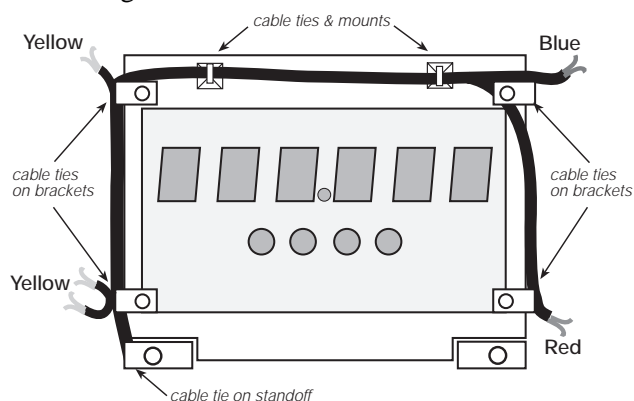

Figure 2. Cable Routing for Bulb Sockets
8. Route wires from terminal block to bulb socket locations as shown in Figure 2. Install cable ties to secure wires at each corner bracket and to the lower left standoff. Use two cable ties and cable tie mounts to secure the cable to the mounting panel above the flip digit board.